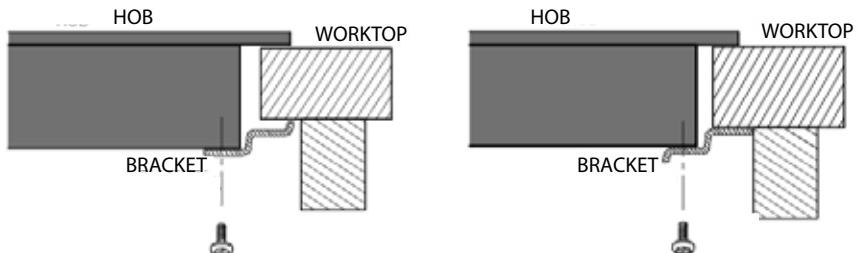

Fig. 7
- Secure the hob to the worktop using the fixing brackets and screws supplied, as shown in (Fig. 7). Remove any excess sealant after tightening the brackets. Do not over-tighten the fixing brackets.